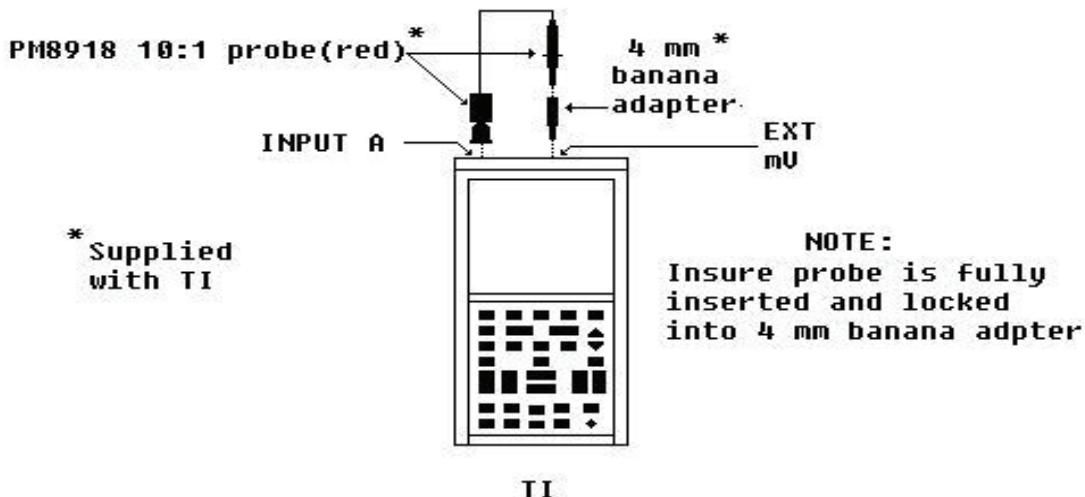

Figure 14. 10:1 probe for INPUT A.
- (64) Displayed "Calibration has been completed successfully", then press **(F1) CLOSE**.
- (65) Disconnect BNC cable from **INPUT A** and reconnect it to **INPUT B**.
- (66) Select 1:1 probe for **INPUT B** by toggling **▲ or ▼** to display/highlight (**▲ or ▼CAL 22**).
- (67) Press **(F5) READY**, then wait till display/highlight **READY** is not highlighted.
- (68) Displayed "Calibration has been completed successfully", then press **(F1) CLOSE**.
- (69) Connect equipment as shown in figure 14 below:
- (70) Select 10:1 red probe for **INPUT A** by toggling **▲ or ▼** to display/highlight (**▲ or ▼ CAL 19**).
- (71) Press **(F5) READY**, then wait till display/highlight **READY** is not highlighted.
- (72) Displayed "Calibration has been completed successfully", then press **(F1) CLOSE**.
- (73) Disconnect PM8918 10:1 red probe from **INPUT A**.
- (74) Connect equipment as shown in figure 14, but use the PM8918 10:1 grey probe to **INPUT B** side.
- (75) Select 10:1 grey probe for **INPUT B** by pressing **▲ or ▼** to display/highlight (**▲ or ▼ CAL 20**).
- (76) Press **(F5) READY**, then wait till display/highlight **READY** is not highlighted.
- (77) Displayed "Calibration has been completed successfully", then press **(F1) CLOSE**.
- (78) Disconnect PM8918 10:1 gray probe from **TI**.